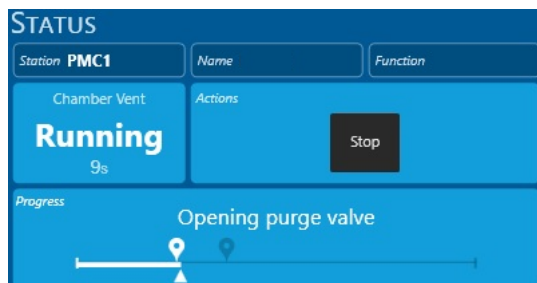
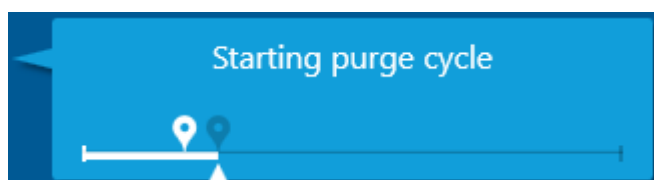

Figure 4-23 Vent progress panel (process module page)
Figure 4-24 Vent progress panel (Batch View page)
- 3 The vent sequence starts and automatically purges the process chamber before venting. The tool displays the progress of the operation, see Figure 4-23 or Figure 4-24.